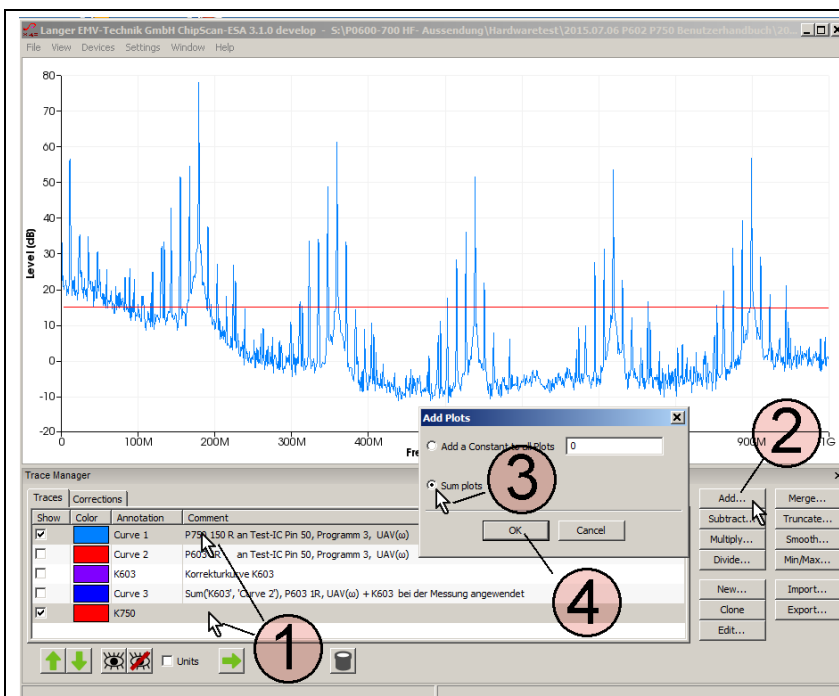

Figure 28 Correction after the measurement; performing the addition $U_{IC} = U_{AV} + K750$
Mark the "Curve 1" (U_{AV}) curve and the "K750" curve in the "Traces" list **Figure 28** in the "Trace Manager" with the mouse cursor ①. Open the mathematical operation "Add..." (addition) and activate "Sum up all Plots" (**Figure 28** mouse cursor ③). Click OK ④ to perform the addition $U_{AV} + K750$.